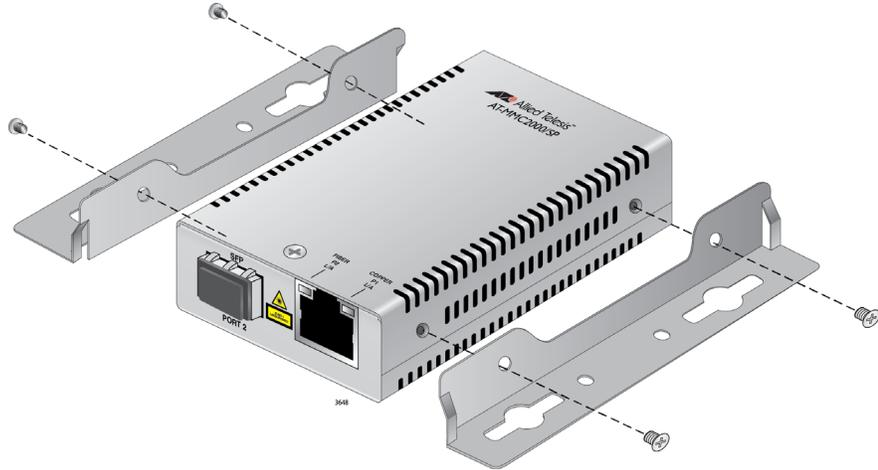

Figure 19. Attaching the Brackets to Install the Media Converter on a Wall
2. Orient the brackets (separately-purchased) against the sides of the media converter, as shown in Figure 19, and secure them to the unit with the four brackets screws included with the brackets.